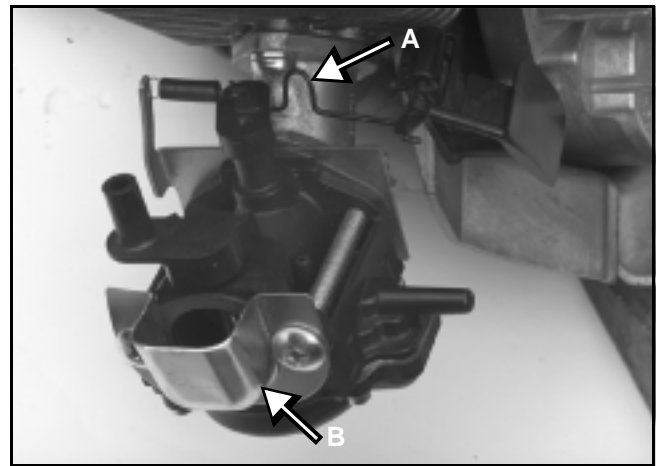
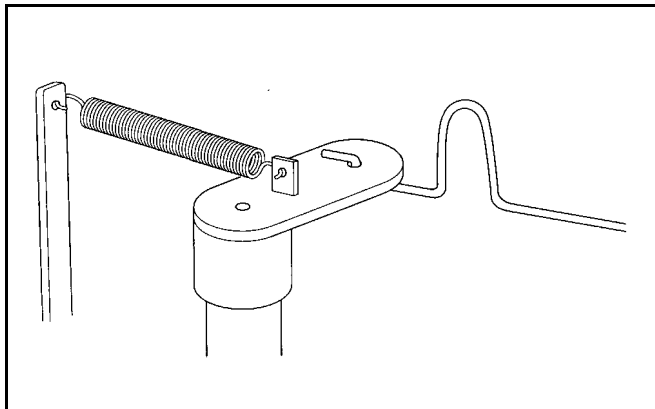

Figure 38
Figure 40
R tek engines - Connect the governor spring to the throttle plate and the tab on the block. Connect the governor rod adjusting loop (A) up to the air vane, and connect the choke cable. Assure the throttle is in the full open position. (See Figure 38 and Figure 40.)
6. Install the air filter element and cover (DuraForce engines only). The R tek engine has a spit cup (B) only. Note: The opening of the spit cup should be pointed up. (See Figure 38.)
The piston ported engine does not use the “click” type adjustment. For the piston ported engines, the governor is adjusted by bending the bracket that the governor spring is attached to. Otherwise, the function of the governor is the same (see Figure 40).